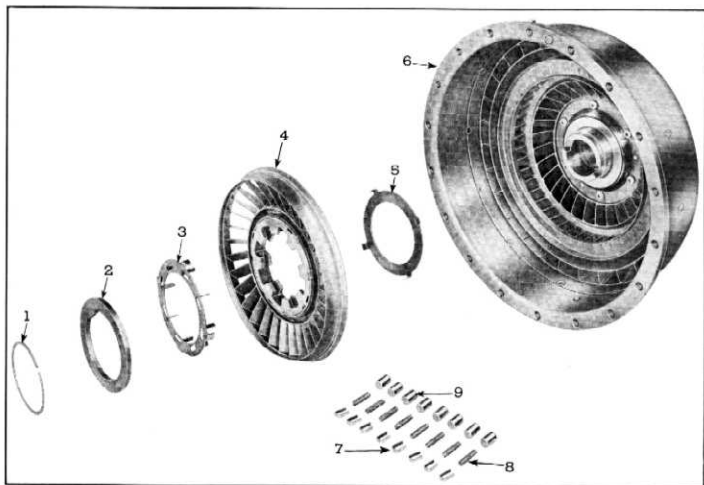

Fig. 76—Layout of Primary and Secondary Pump
4. Figure 76 shows layout of pump parts.